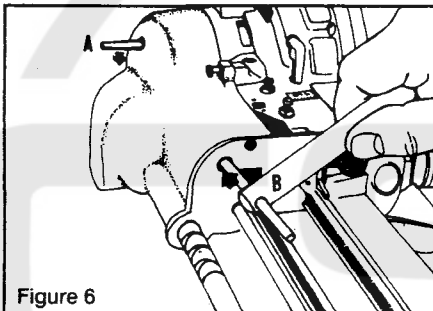

Figure 6
2.9 TO REMOVE SHARPENER FROM MACHINE (Figure 6)
- Figure 6: Disengage Tripper Handle "A" by inserting handle of Knife Key "B" through hole in lower cover and pressing upwards until Tripper Handle snaps back to its "off" position.